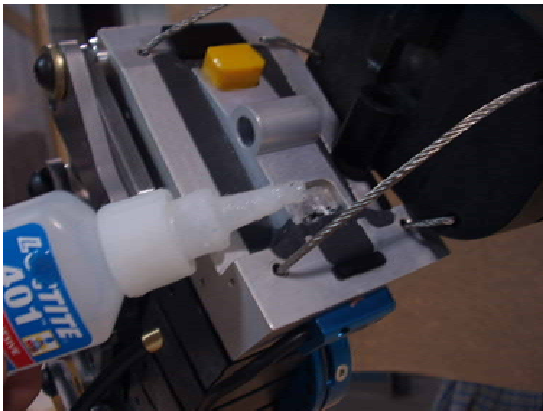

Figure 110 - Add Drop of Adhesive
15. Place one drop of Loctite 401 in center of rectangular cavity in T1 vertebrae (Figure 110).